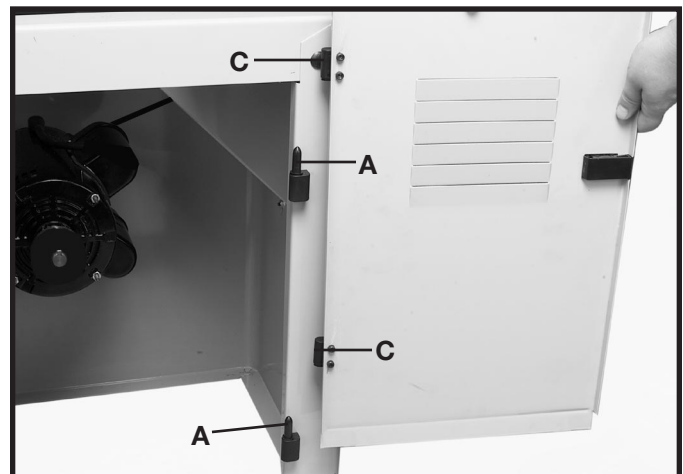

Fig. 22
11. Slide the two hinges (C) Fig. 22, on the door, over the two hinge pins (A) on the cabinet.